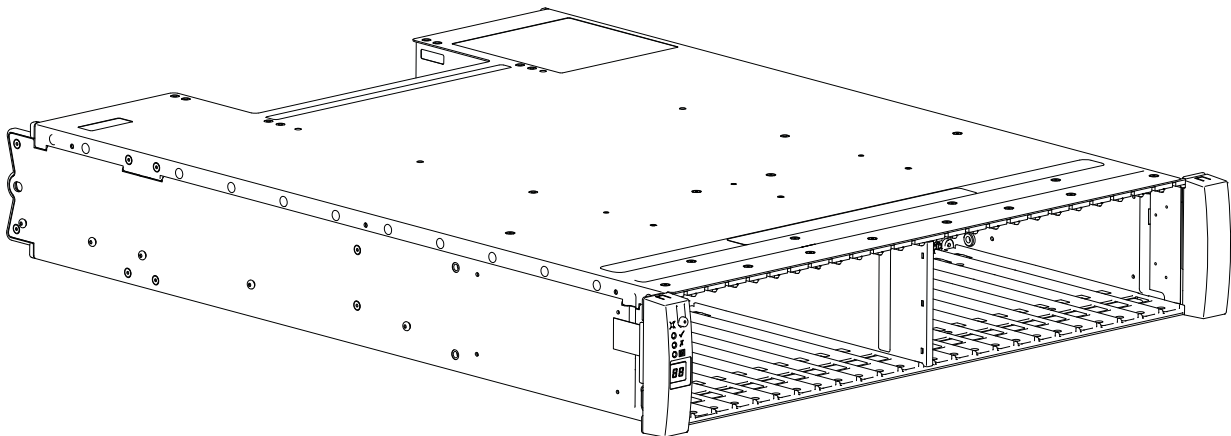

Figure 19 2U24 enclosure chassis – dimetric front orientation
- 2U24 empty chassis with midplane: see Figure 19 \(page 28\).